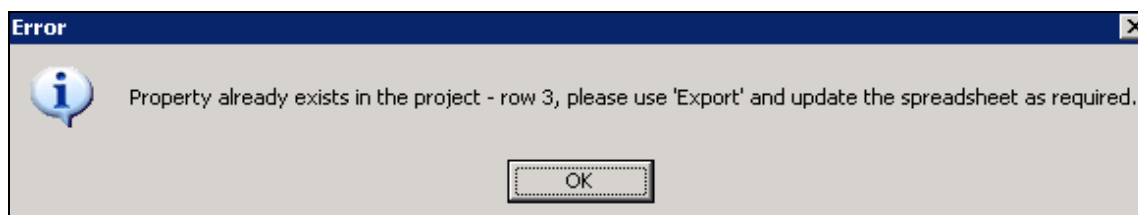

Figure 6-110: Error Message – Duplicate Property
- c) When importing a spreadsheet, any new properties will be compared to those already existing in the project. If an exact match is found, the import will be halted and a message similar to this will appear (Figure 6-110): **Property already exists in the project**. Please note that only exact matches are identified, so if any differences exist such as a slightly different zip code or a damaged address line 2 in one record or not in the other, the record will not be identified as a duplicate and will be allowed to import. While the message states to export and update the spreadsheet as required, it may only be necessary to update the existing spreadsheet by editing or removing the duplicate entry and then attempting the import again.